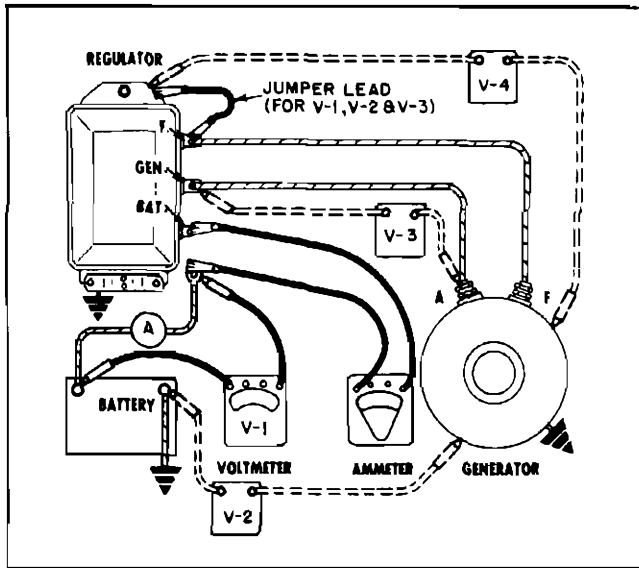

Fig. 11-23 Testing for Voltage Drop in Charging Circuit
Excessive voltage drop in the charging circuit tends to keep the battery in an undercharged condition. To check for excessive voltage drop (resulting from loose connections or other high resistance) in the charging circuit, make connections as shown in Fig. 11-23 and proceed as follows:
4. With the engine stopped, turn on the full lighting and accessory load (approximately 20 amperes). Measure the voltage drop at V-4 (Fig. 11-23). If this voltage drop exceeds 0.1 volt, excessive resistance is indicated in this portion of the charging circuit.